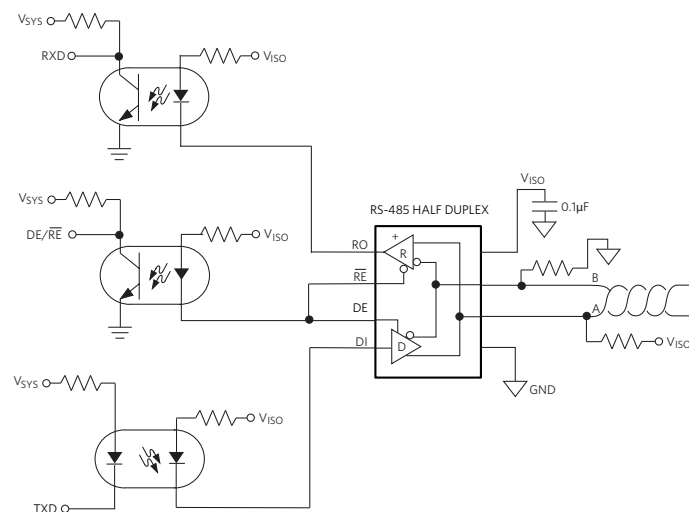

Figure 2. An isolated half-duplex RS-485 channel contains three or four optocouplers to accomplish full signal transceiver activity.
Bidirectional channels use half-duplex devices for communication over a pair of twisted cable. For the RS-485 device, the Rx and Tx terminals connect to the A (noninverting) and B (inverting) IC package pins. The receiver's output (RO) and the driver's input (DI) terminals connect to separate pins (Figure 2).
In certain applications, isolation from optocouplers or other isolators are required. The optocoupler channels in Figure 2 clearly illustrate the number of required lines for the RS-485 transceiver. Note the connection of the  $\overline{RE}$  and DE pins. In most applications, this connection is appropriate. In other applications, the  $\overline{RE}$  and DE pins are separate. The system processor or controller drives the  $\overline{RE}$  and DE control pins in response to the length of time that a node must stay enabled for transmitted packets of data, which vary from application to application.